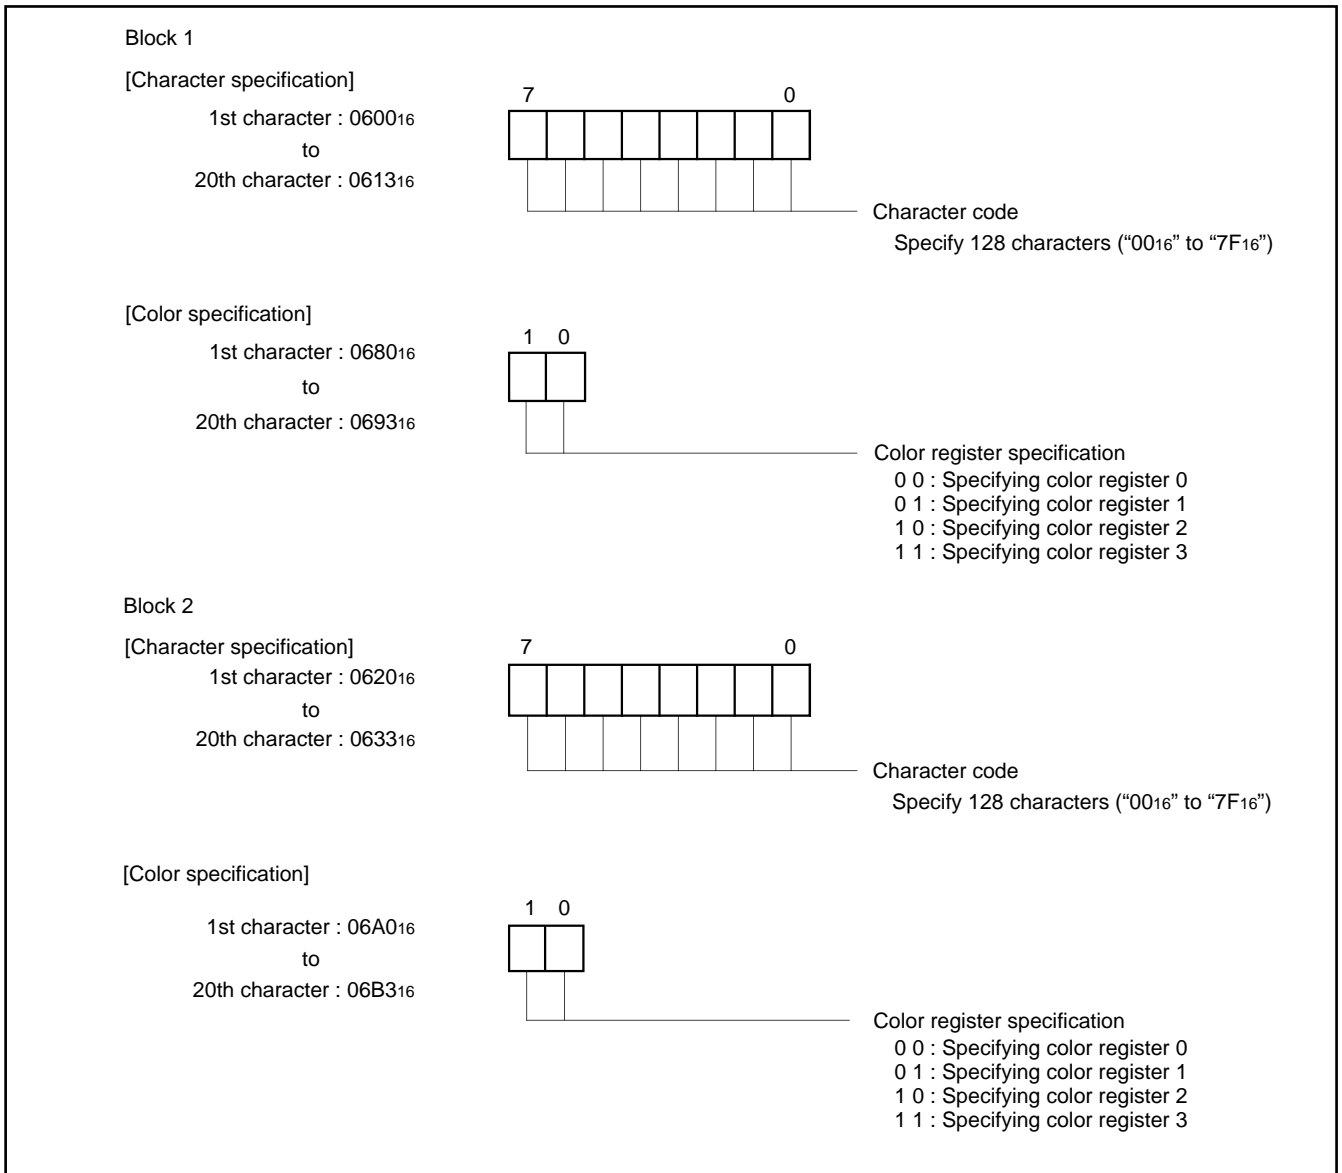

Fig. 33. Structure of CRT display RAM
For example, to display 1 character position (the left edge) in block 1, write the character code in address 060016 and write the color register No. to the low-order 2 bits (bits 0 and 1) in address 068016. The color register No. to be written here is one of the 4 color registers in which the color to be displayed is set in advance. For details on color registers, refer to (5) Color Registers. The structure of the CRT display RAM is shown in Figure 33.